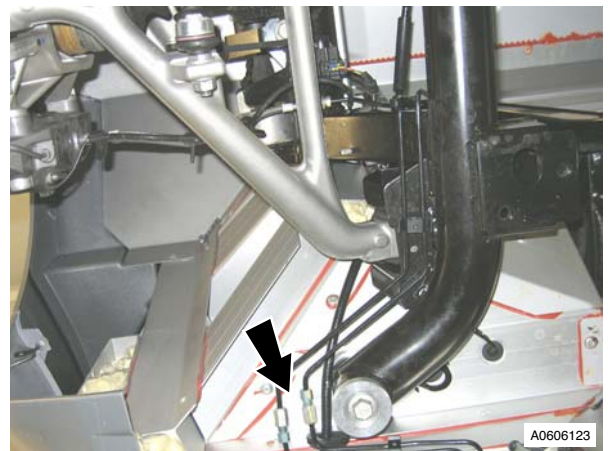

Fig. 2
11. Loosen and disconnect brake tube unions from LH/RH in line connection and RH brake hose connection (see Fig. 2- LHS shown).